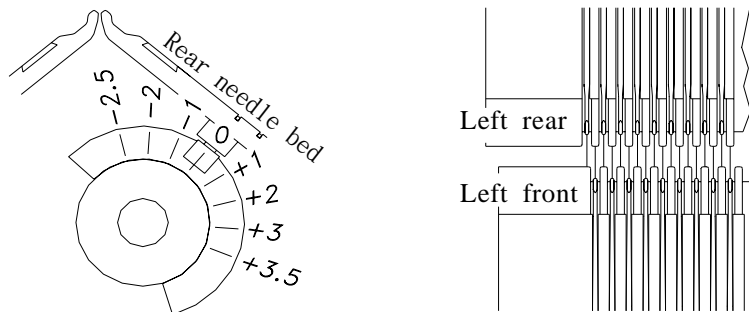

Fig.9-1 Intial position of needle bed
- ① The rear bed can be racked five (5) pitches, the initial position "0". See the left selvedge of needle bed, the corresponding position that the first needle of rear is on the left hand side of the first needle of front. As shown in Fig.9-1.
- ② In editing instruction you can choose the left racking or the right racking by one pitch.
- ③ In each racking position the rear bed and the front bed must be kept in correct corresponding relation. You check it with pushing one front needle to tuck position, the hook of front needle and the knock-bit of rear bed should be at the same position.